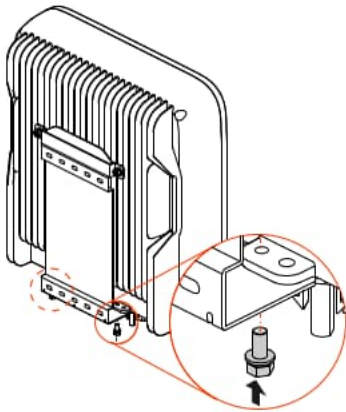
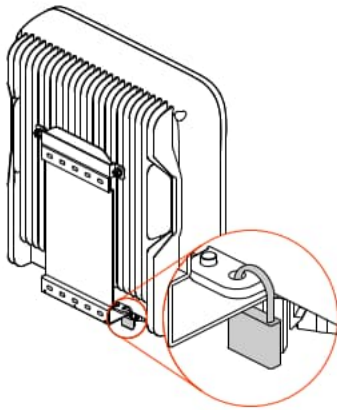

Figure3-11 Fasten the inverter
Figure3-12 Position of lock
Step 6 Fasten the inverter to the installation holder by 2 stainless steel combination bolt M5*12 (as shown in Figure3-11), and then lock it. The lock position is as shown in Figure3-12.